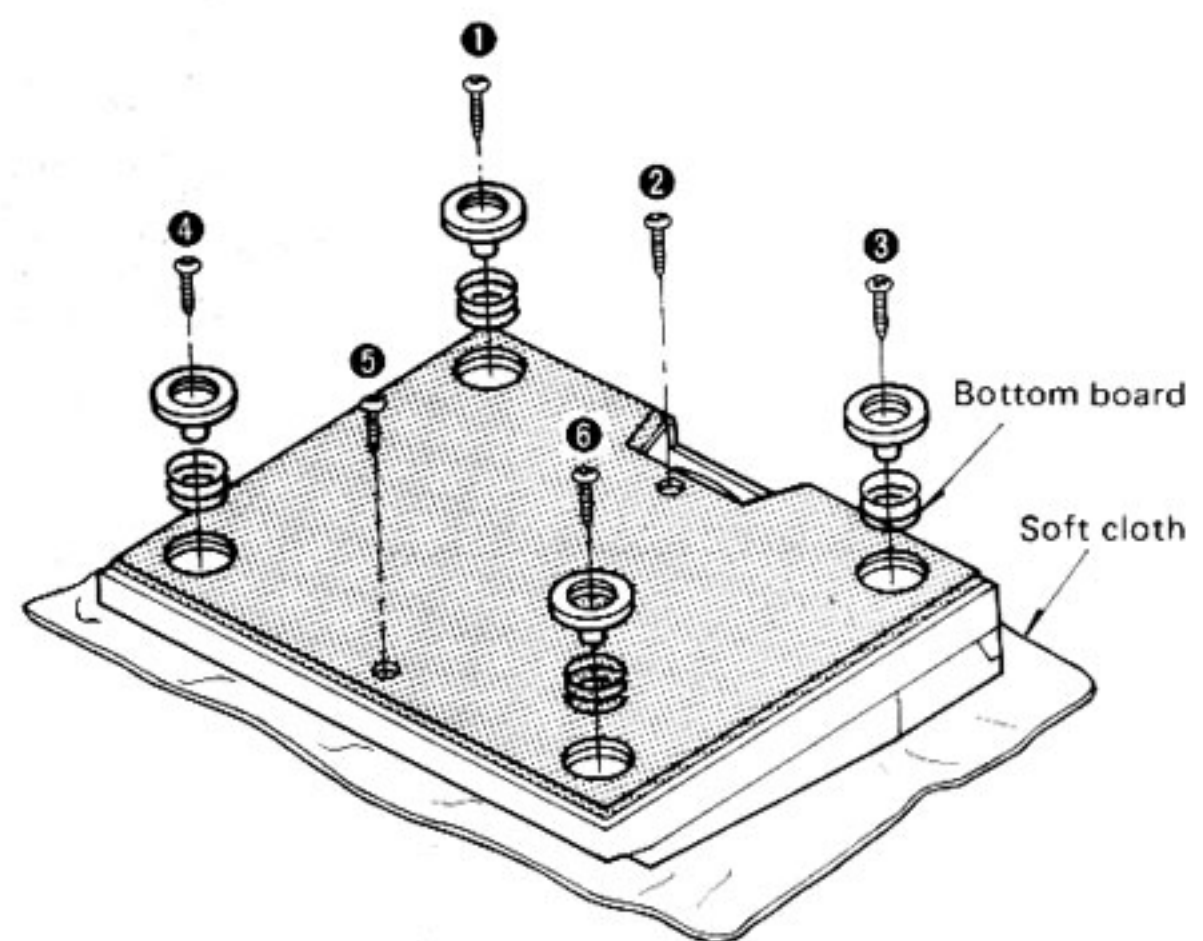

Fig. 4
3. Remove the 6 setscrews (Fig. 4 ① ~ ⑥), 4 Insulators and 4 springs (Fig. 4).